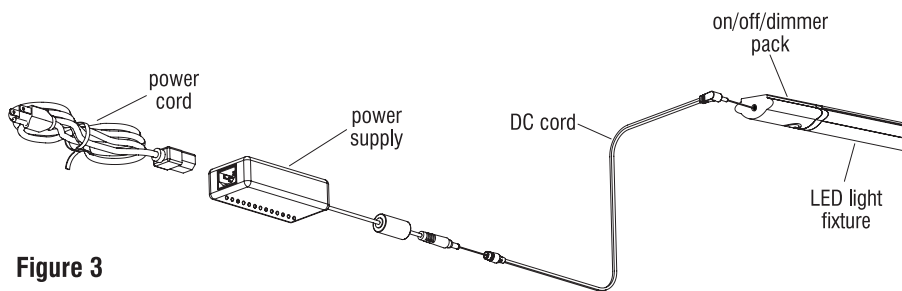

Figure 3
4. Plug DC cord to the on/off/dimmer pack end of fixture and route to power supply (Figure 3).
5. Place power supply on any horizontal surface, allowing the plug to be inserted into 120V AC, 60Hz, grounded outlet (Figure 3).
3. Plug DC cord to the on/off/dimmer pack end of fixture and route to power supply (Figure 3).
4. Place power supply on any horizontal surface, allowing the plug to be inserted into 120V AC, 60Hz, grounded outlet (Figure 3).
2. Place power supply on any horizontal surface, allowing the plug to be inserted into 120V AC, 60Hz, grounded outlet (Figure 3).
3. Route the low power DC cord from power supply to the on/off/dimmer pack end of the fixture (Figure 3).